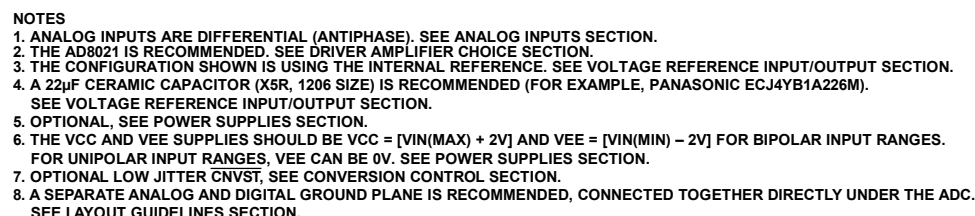
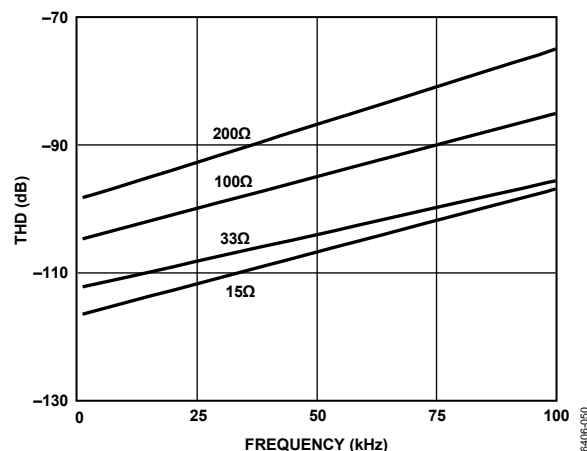
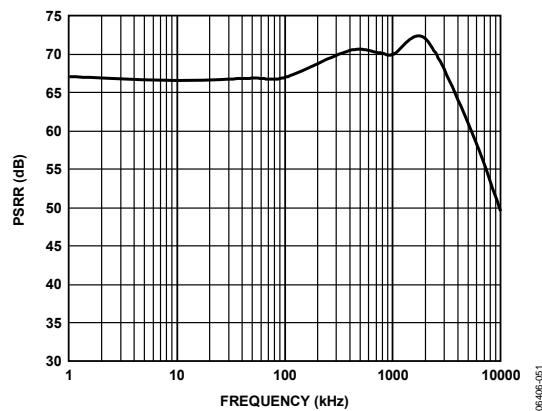

Figure 27. Typical Connection Diagram Shown with Serial Interface and Serial Programmable Port
Figure 30. THD vs. Analog Input Frequency and Source Resistance
Figure 33. AVDD PSRR vs. Frequency
Figure 27 shows a typical connection diagram for the AD7634 using the internal reference, serial data interface, and serial configuration port. Different circuitry from that shown in Figure 27 is optional and is discussed in the following sections.
Because the input impedance of the AD7634 is very high, it can be directly driven by a low impedance source without gain error. To further improve the noise filtering achieved by the AD7634 analog input circuit, an external, one-pole RC filter between the amplifier's outputs and the ADC analog inputs can be used, as shown in Figure 27. However, large source impedances significantly affect the ac performance, especially the THD. The maximum source impedance depends on the amount of THD that can be tolerated. The THD degrades as a function of the source impedance and the maximum input frequency, as shown in Figure 30.
- The noise generated by the driver amplifier needs to be kept as low as possible to preserve the SNR and transition noise performance of the AD7634. The noise coming from the driver is filtered by the external 1-pole low-pass filter, as shown in Figure 27. The SNR degradation due to the amplifier is
The AVDD and DVDD supply the AD7634 analog and digital cores, respectively. Sufficient decoupling of these supplies is required consisting of at least a 10  $\mu$ F capacitor and a 100 nF capacitor on each supply. The 100 nF capacitors should be placed as close as possible to the AD7634. To reduce the number of supplies needed, the DVDD can be supplied through a simple RC filter from the analog supply, as shown in Figure 27.
The AD7634 requires sequencing of the AVDD and DVDD supplies. AVDD should come up prior to or simultaneously with DVDD. This can be achieved using the configuration in Figure 27 or sequencing the supplies in that manner. The other supplies can be sequenced as desired as long as absolute maximum ratings are observed. The AD7634 is very insensitive to power supply variations on AVDD over a wide frequency range, as shown in Figure 33.